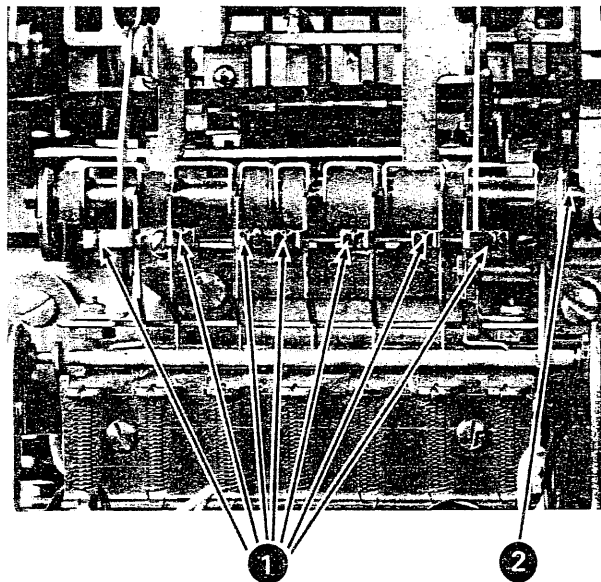

Figure 4-38. Latch-Pusher Removal (Steps 2-4)
2. Disconnect the pusher springs (No. 1, Figure 4-38).
3. Remove the C-clip on the end of the shaft (No. 2, Figure 4-38), and remove the shaft until the desired pusher is free.